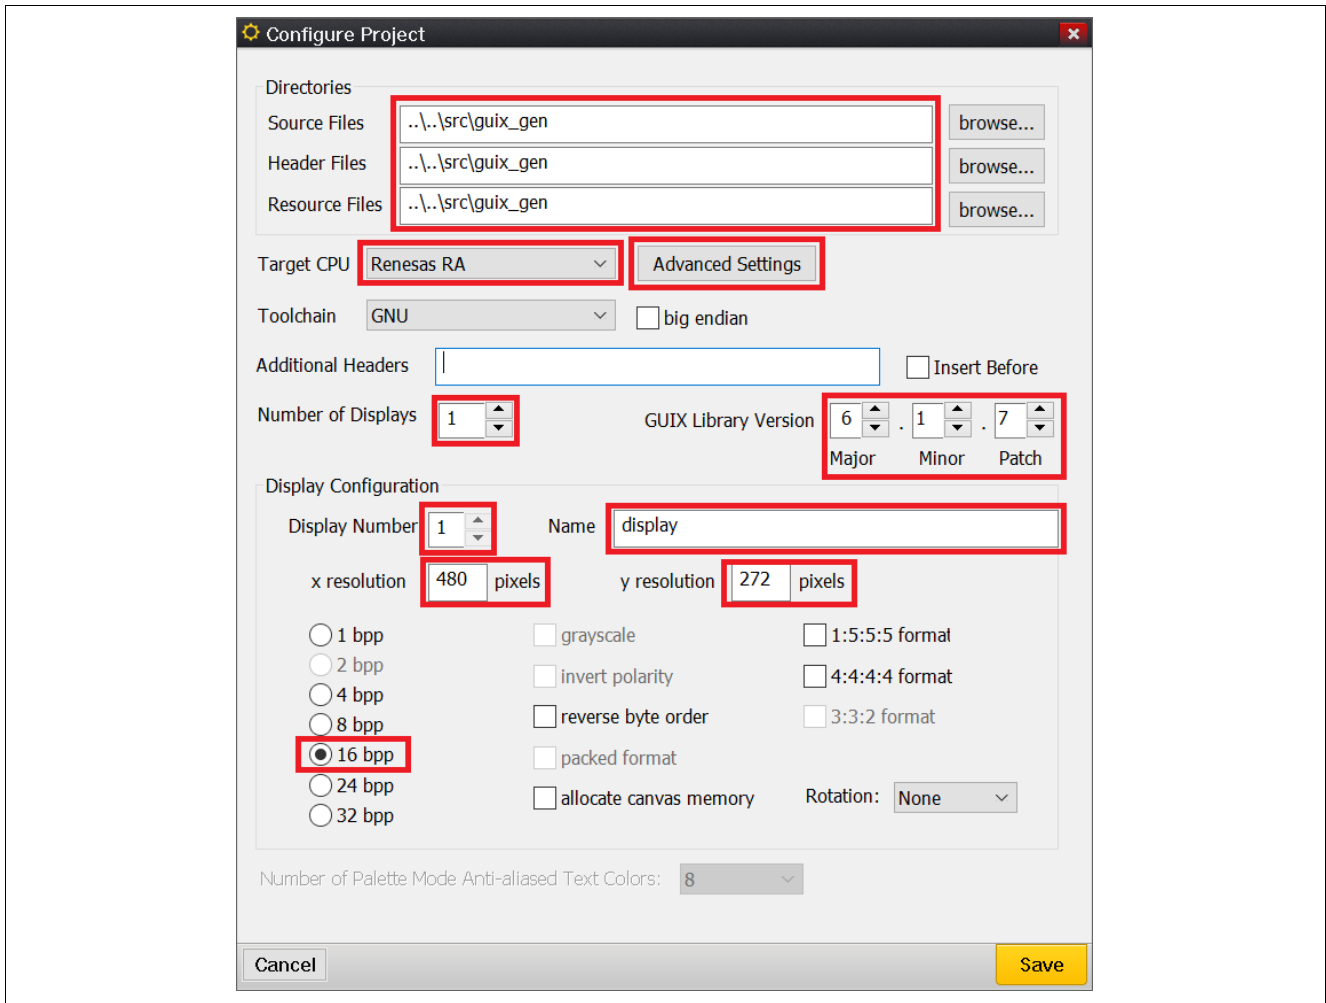
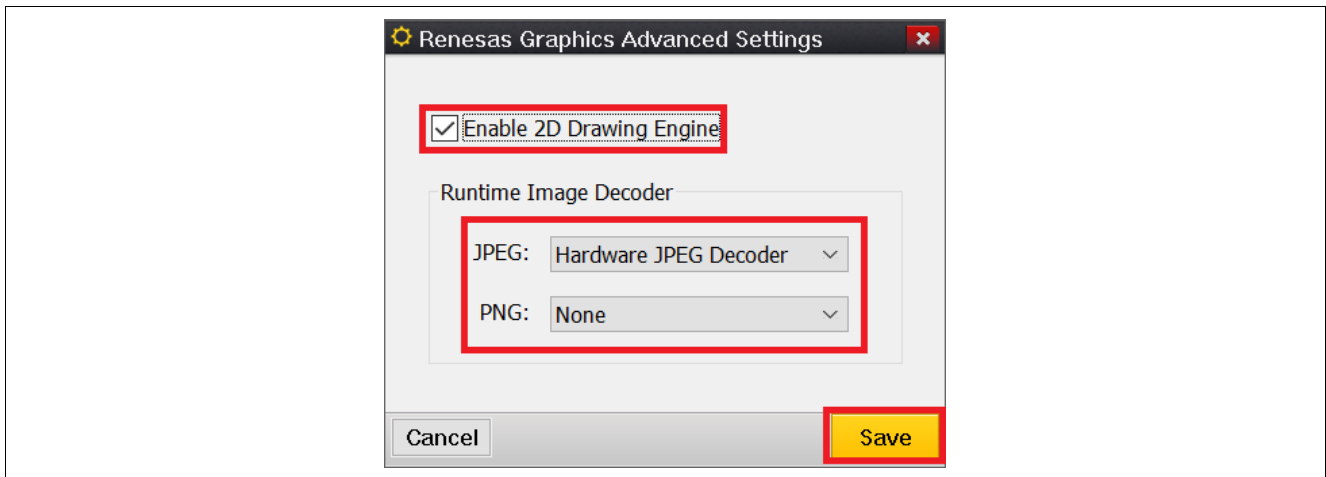

Figure 51. Configure Project
Figure 52. Advanced Settings
3. A new **Configure Project** window will pop up and you need to set all the options as shown in Figure 51 and Figure 52. Finally, click **Save**.